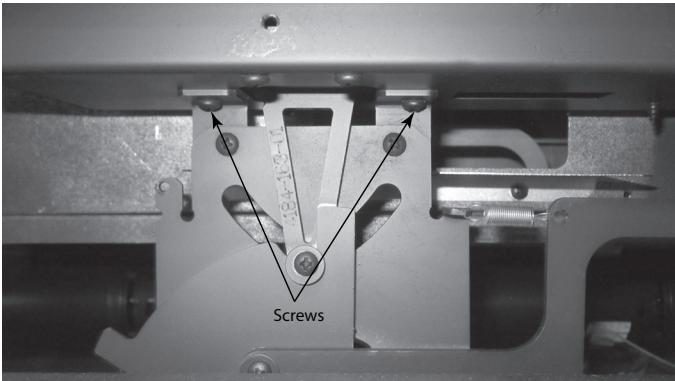

Figure 4.24 Screwing Timer to Air Chamber
10. Screw the timer to the air chamber. See Figure 4.24.